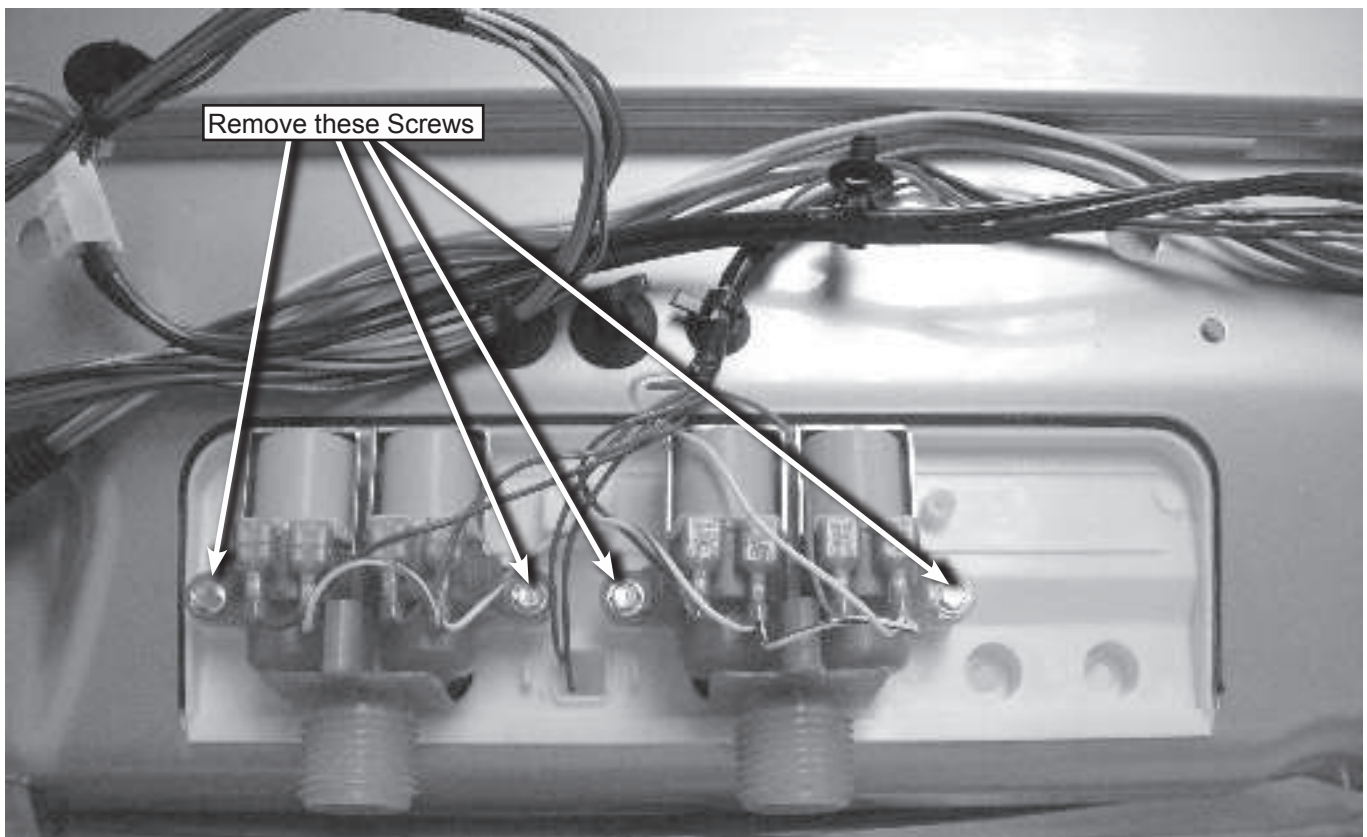

Figure 1
7. Unscrew two (2) mounting screws on each valve coil set, see figure 1.